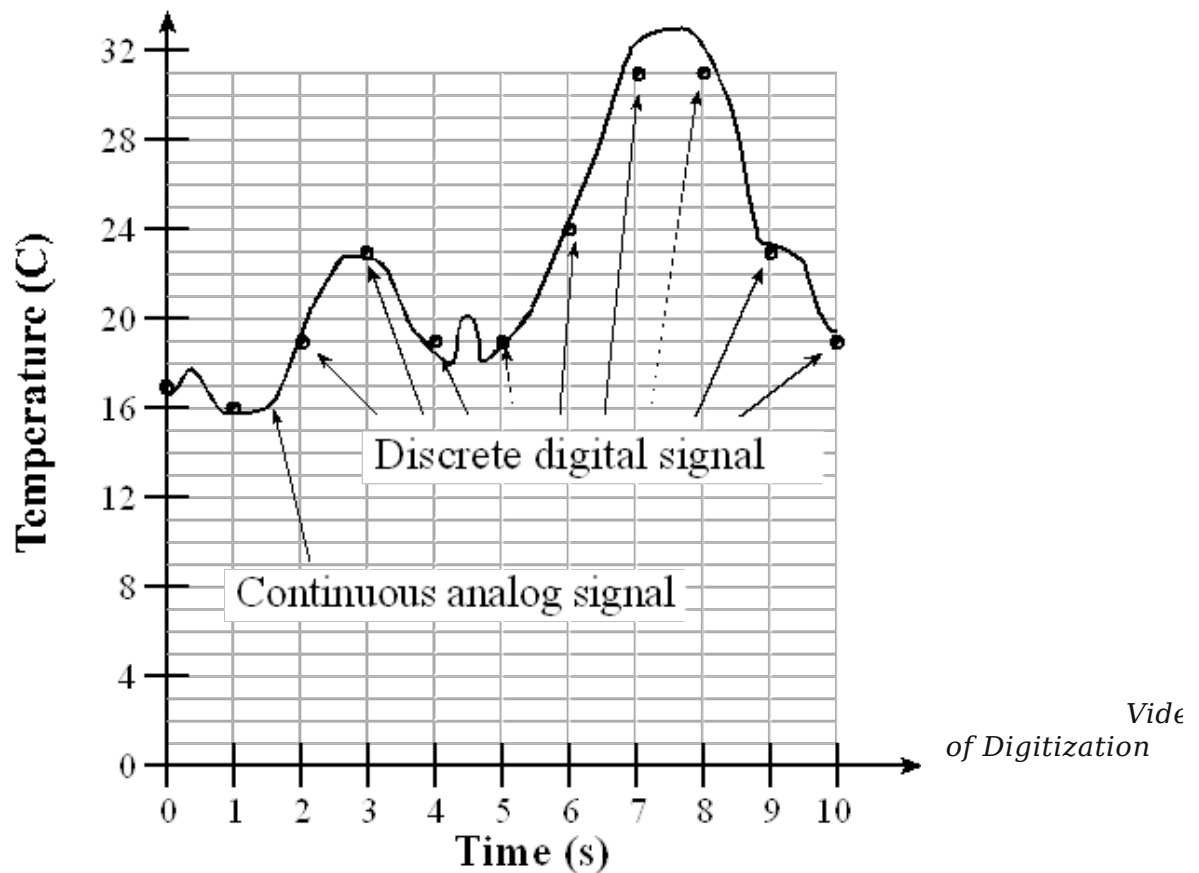

Figure 13.1. An analog signal is represented in the digital domain as discrete samples
Figure 13.1 shows a temperature waveform (solid line), with a corresponding digital representation sampled at 1 Hz and stored as a 5-bit integer number with a range of 0 to 31 °C. Because it is digitized in both amplitude and time, the digital samples (individual dots) in Figure 13.1 must exist at an intersection of grey lines. Because it is a time-varying signal (mathematically, this is called a function), we have one amplitude for each time, but it is possible for there to be 0, 1, or more times for each amplitude.
The second approximation occurs in the time domain. Time quantizing is caused by the finite sampling interval. For example, the data are sampled every 1 second in Figure 13.1. In practice we will use a periodic timer to trigger an analog to digital converter (ADC) to digitize information, converting from the analog to the digital domain. Similarly, if we are converting from the digital to the analog domain, we use the periodic timer to output new data to a digital to analog converter (DAC). The **Nyquist Theorem** states that if the signal is sampled with a frequency of  $f_s$ , then the digital samples only contain frequency components from 0 to  $\frac{1}{2} f_s$ . Conversely, if the analog signal does contain frequency components larger than  $\frac{1}{2} f_s$ , then there will be an **aliasing** error during the sampling process (performed with a frequency of  $f_s$ ). Aliasing is when the digital signal appears to have a different frequency than the original analog signal. Also note, the digital data has 11 values at times 0 to 10, but no information before time=0, and no information after time=10.
*Discover the Nyquist Theorem. A Continuous waveform like Figure 13.1 is shown,  $V = 1.5 +$*